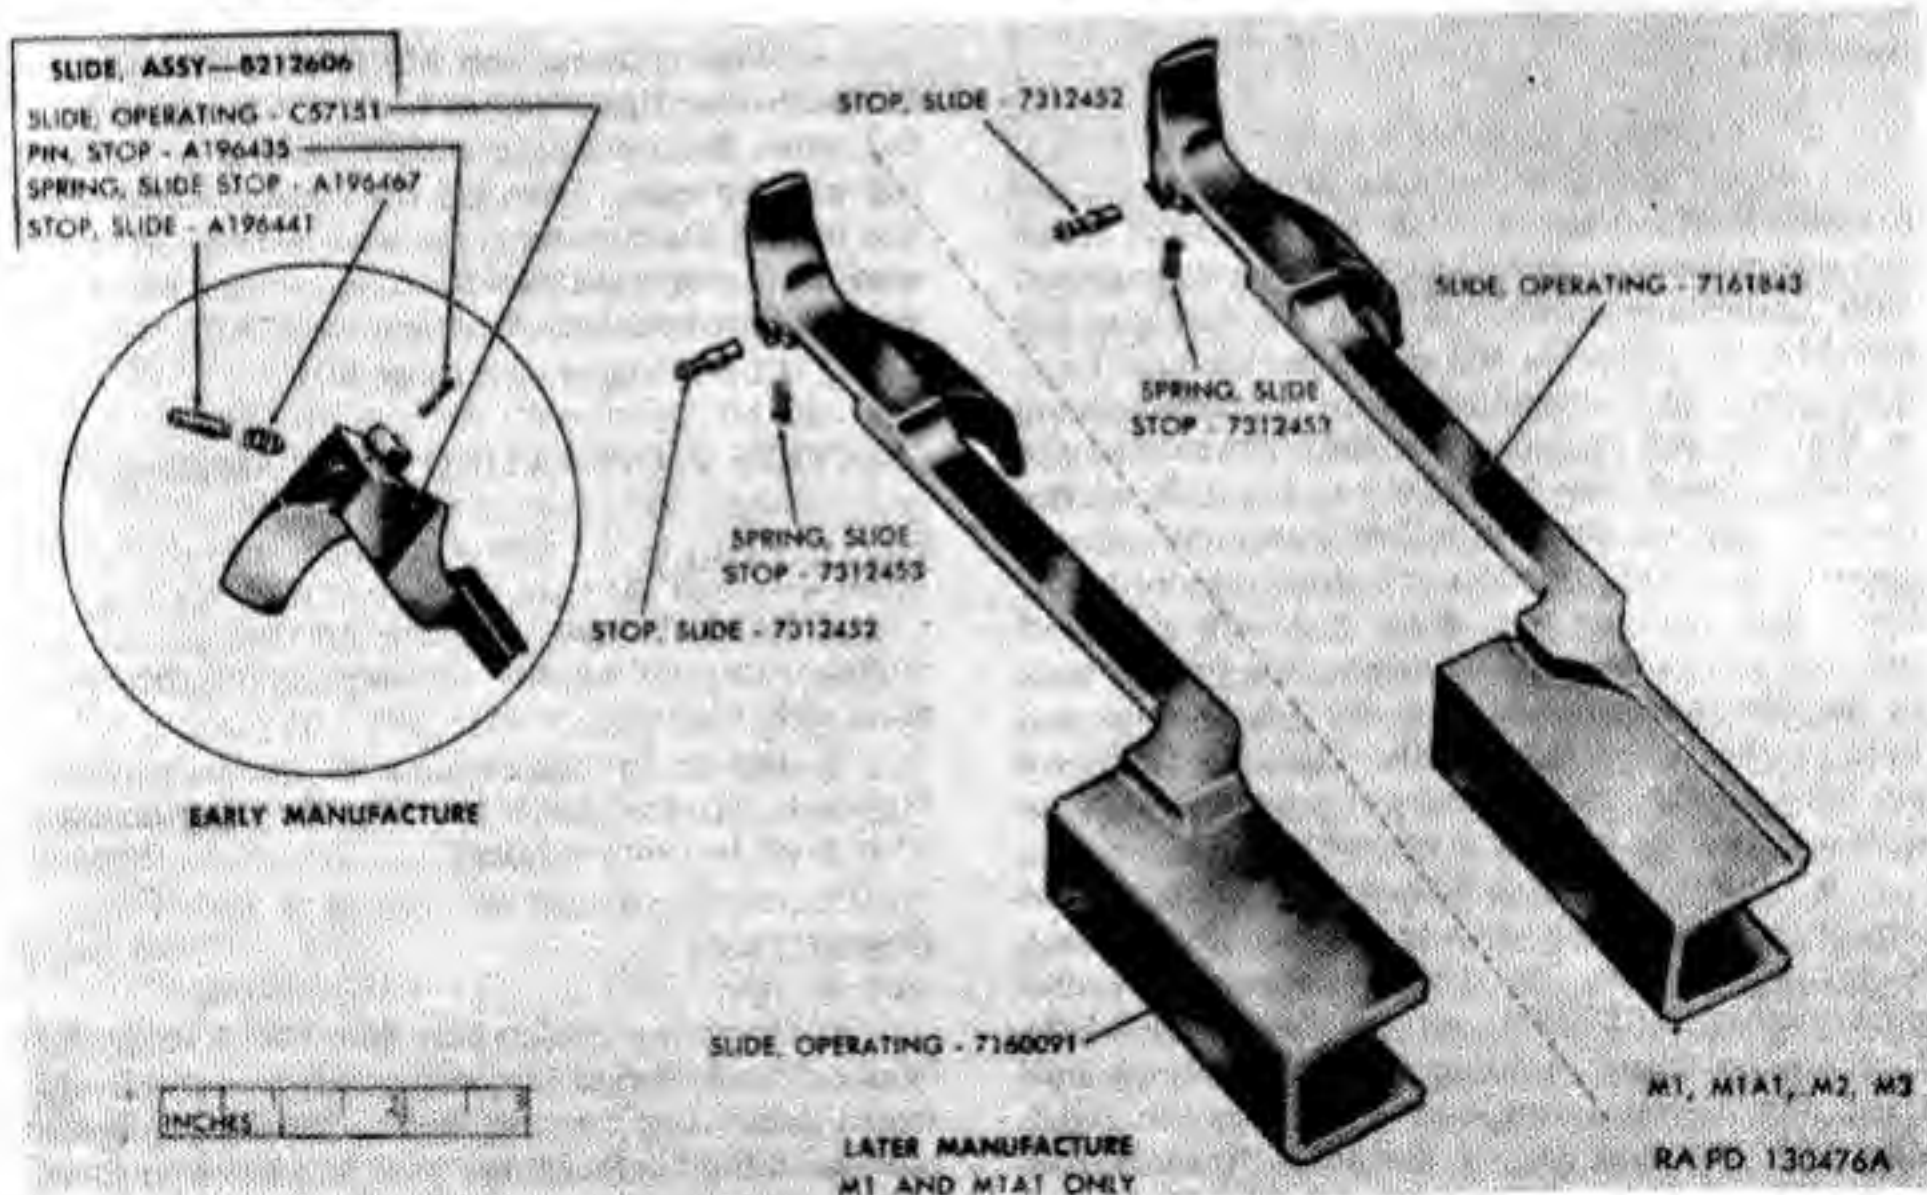

Figure 57. Operating slide assembly.
a. Operating Slide (Fig. 57). Check slide for bent or cracked rear bar, deformation, excessively worn guide lugs, burrs, and corrosion. Inspect bolt camming lug recess for wear and burrs. Inspect spring guide seating recess in rear face for wear, burrs, and foreign matter. Inspect front race of
b. Operating Slide Stop and Stop Spring (Fig. 57).
- (1) For depot maintenance, check to assure that stop 7312452 and spring 7312453 are used. For field maintenance, old type is satisfactory if it functions properly.
- (2) Inspect stop for wear and burrs, looseness in operating slide, and rust. Inspect stop spring for functioning, lack of friction with stop, and for set. Inspect spring for foreign matter.